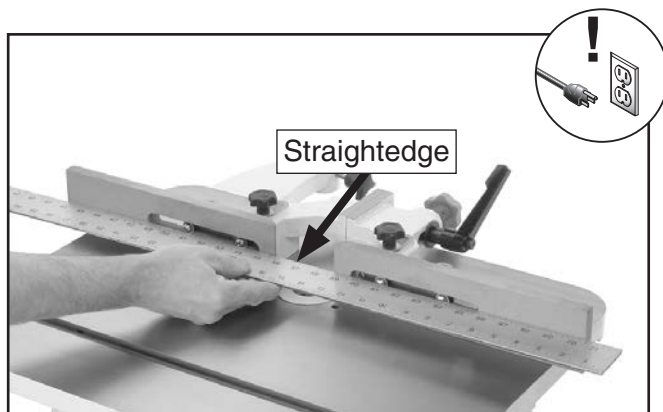

Figure 54. Example of aligning fence boards.
2. Make sure fence boards are even with each other, then place straightedge against both fence boards, as shown in **Figure 54**.